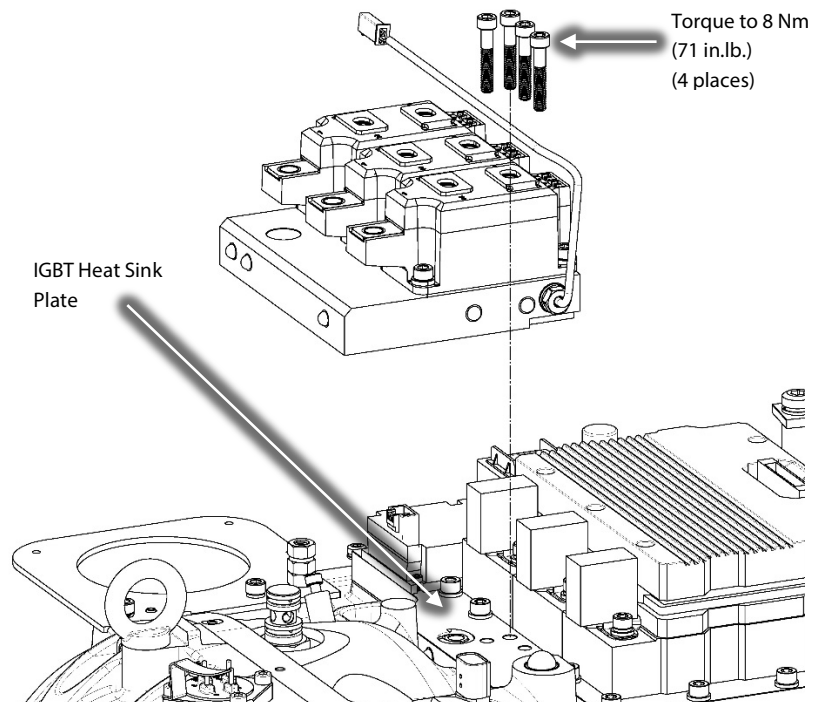

Figure 14 – SCR Manifold Removal
22. Remove the four (4) screws that secure the SCR Cooling Manifold to the IGBT Heat Sink Plate. (Refer to Figure 14 (SCR Manifold Removal)).
23. Carefully remove the SCR Cooling Manifold from the IGBT Heat Sink Plate and the SCR Manifold Return Brass Fitting. Refer to Figure 14 (SCR Manifold Removal).